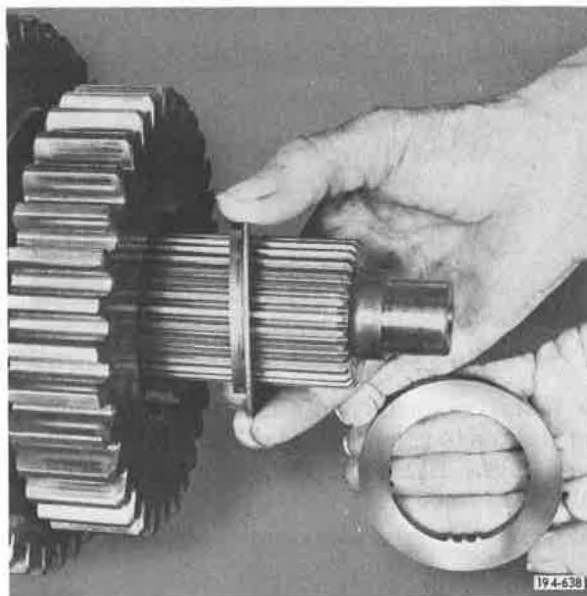

Figure 5-513. Installing Thrust Washers
16. Install fourth speed gear flanged thrust washer, and fourth speed gear splined thrust washer. See Figure 5-513.